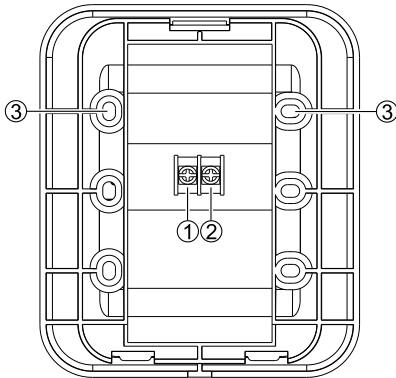

Figure 2
1. Specific installation and commissioning method: As indicated in the construction drawings, use two M4 screws to run through the mounting holes as shown in Figure 2 (optional horizontal or vertical installation mode; any 2 of the 6 mounting holes can be selected), fix the supporting base to the specified position, and confirm that the base has been firmly installed.